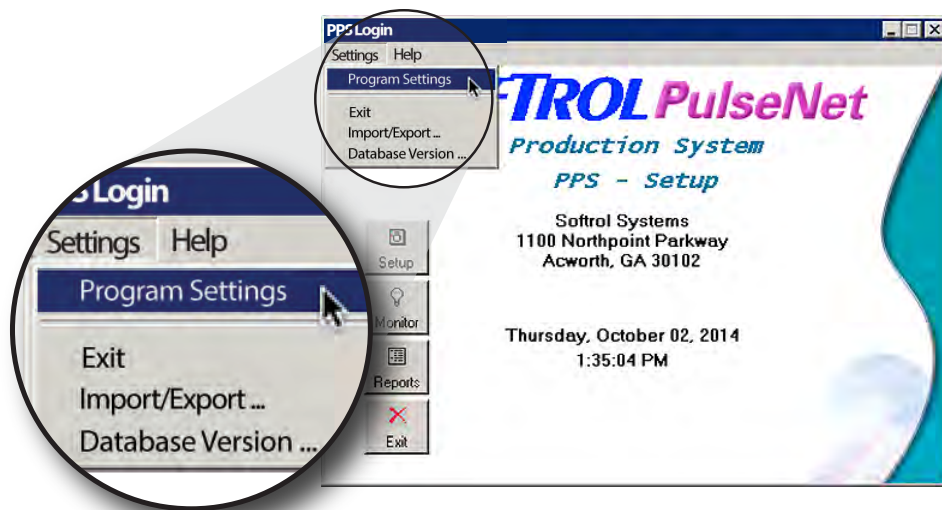

Figure 3. PPS Program Settings.
3. Click **Settings> Program Settings** in the top menu to open the *PPS Program Settings* dialog (see Figure 3).